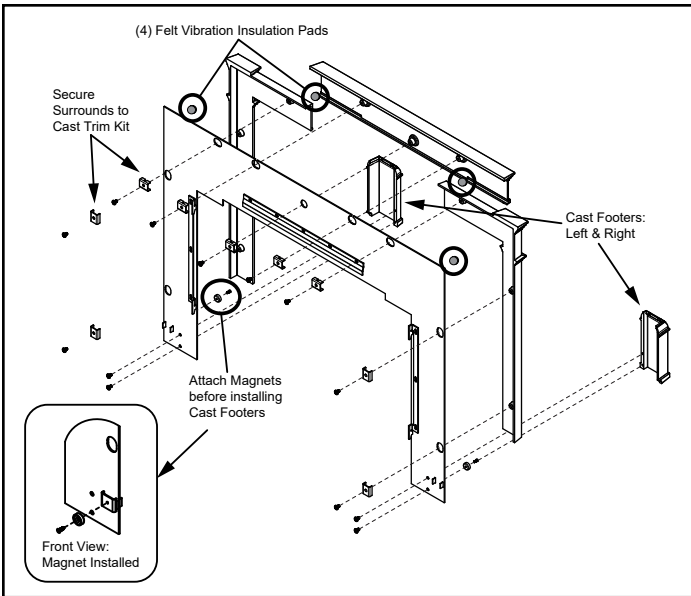

Figure 5.16
3. Place the peel and stick round felt vibration insulation pads on the front side in each corner of the top metal piece and on the back side in each corner of the top cast piece (**Figure 5.16**).